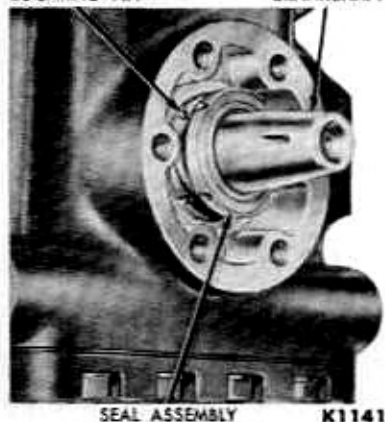

FIG. 51—Crankshaft Seal Installation
5. Lubricate the new shaft seal parts in clean compressor oil, and position the seal assembly on the crankshaft, engaging the notches in the seal with the locating pins (Fig. 51).